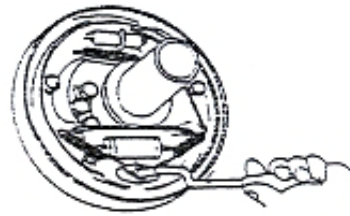

Figure 8
(1) Apply brake fluid to the cup and piston of the brake cylinder and assembly the spring, piston cup. Piston and guard ring in order.
(2) Install the brake cylinder on the brake floor.
(3) Install the brake base plate on the drive axle.
(4) Apply heat-resistant grease to each side as shown in figure 8, Be careful not to apply it to the insert